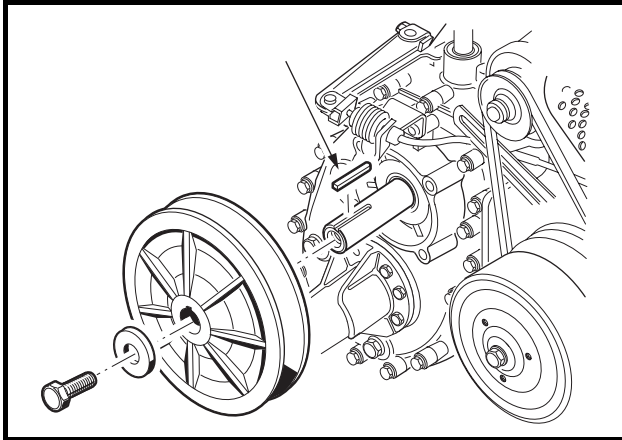

Figure 19-37 Driven Clutch and Key
9. Install the key onto the input shaft (**Figure 19-37, Page 19-15**).
10. Position the driven clutch on the transaxle input shaft and install the washer (yellow side facing out) and mounting bolt. Tighten the mounting bolt to 14 ft-lb (19.0 N·m) (**Figure 19-37, Page 19-15**).